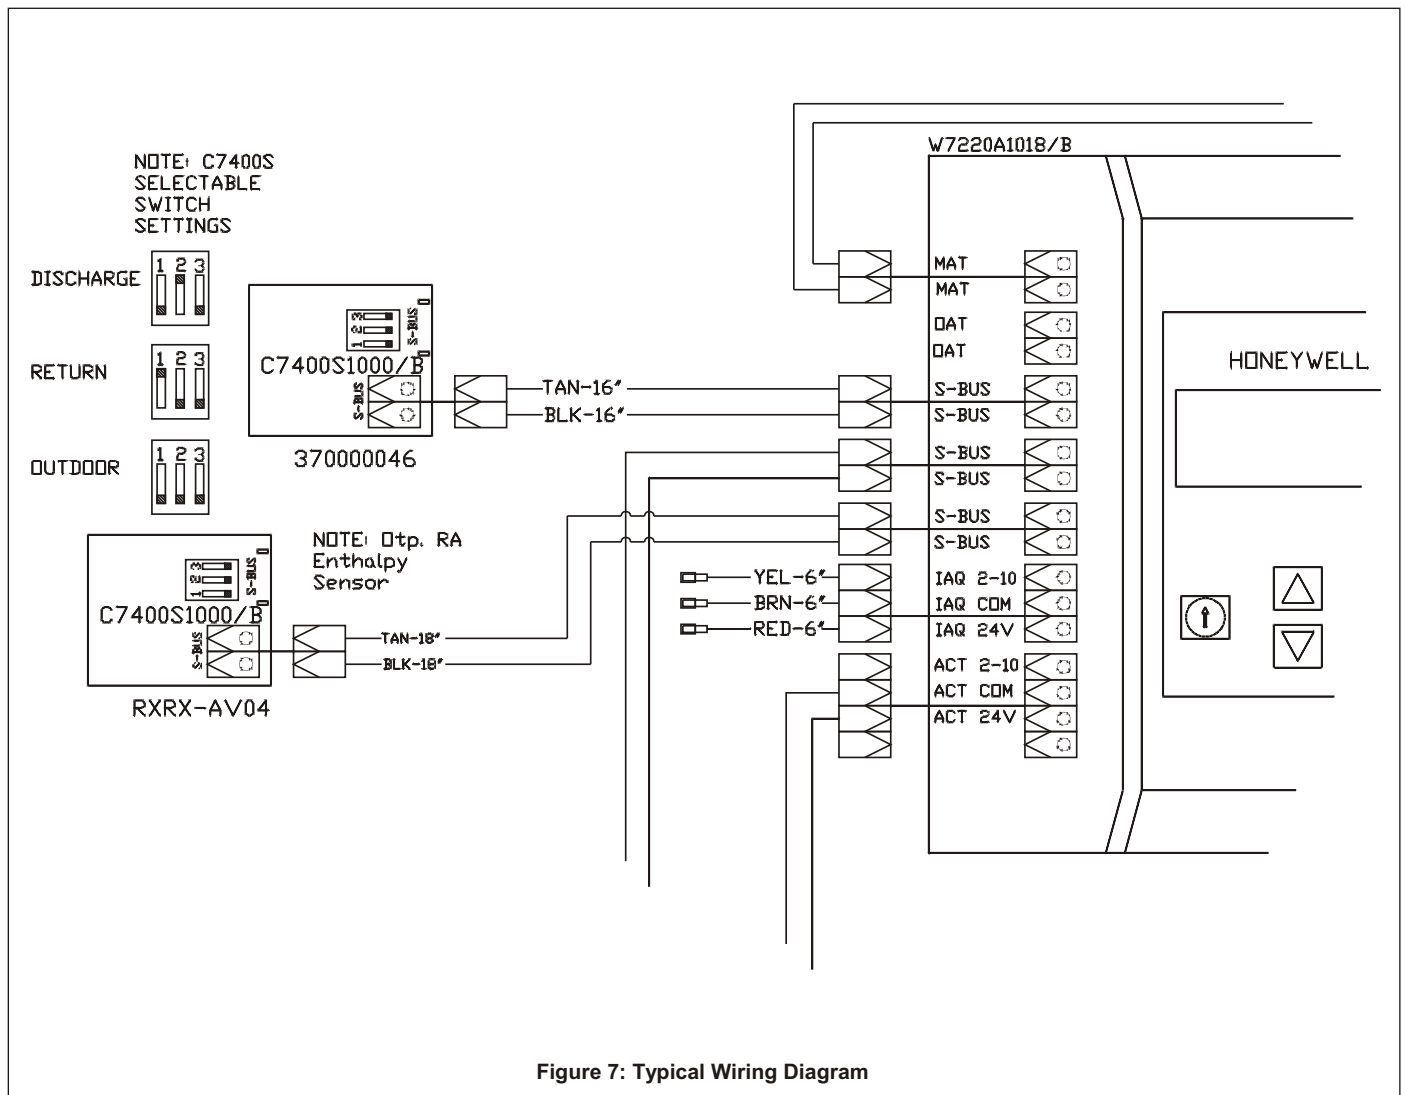

Figure 7: Typical Wiring Diagram
6. Route and attach the wiring harness with the other harnesses on the economizer using the tie wraps provided and connect to the Logic Module (See Figure 7).
7. Wire the sensor and Logic Module (See Figure 7).